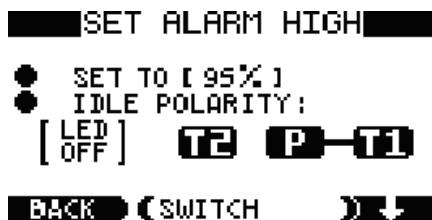

Figure 7: High Alarm Enable/Disable
- 2iv) Use the right-hand button labelled with an arrow to scroll through the menu. Highlight “SET ALARM HIGH” then press the central ENTER button. This brings up the set alarm high menu (shown in Figure 7)
- 4iv) Use the right-hand button labelled with an arrow to scroll through the menu. Highlight SET ALARM LOW then press the central ENTER button. This brings up the set alarm low menu (shown in Figure 7)